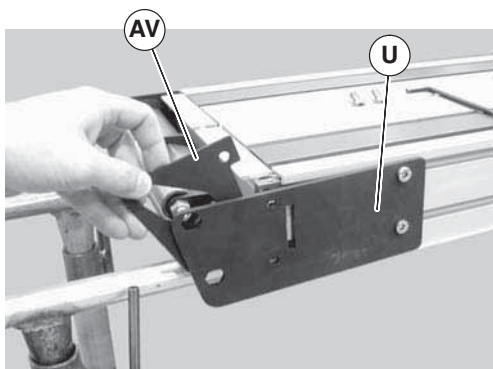

Figure 56
3. Remove the inner spacer (Figure 56, item AV).